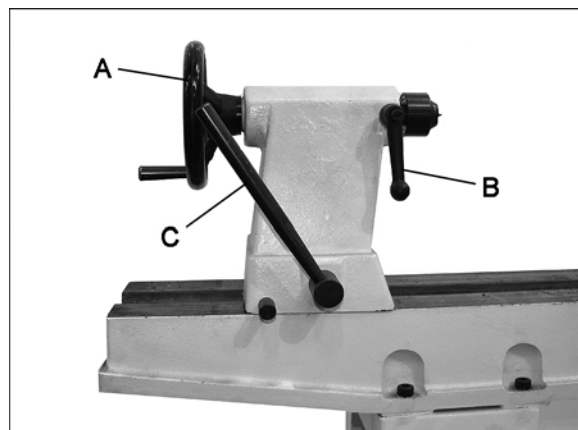

Figure 5
**Tailstock Handwheel** (A, Fig. 5) - turn clockwise to move tailstock spindle forward. Turn counterclockwise to retract tailstock spindle.
**Tailstock Spindle Lock** (B, Fig. 5) - locks tailstock spindle. Release to adjust handwheel.
**Tailstock Lock** (C, Fig. 5) - locks tailstock in position on the bed. Release to move tailstock assembly closer to or farther from the headstock.